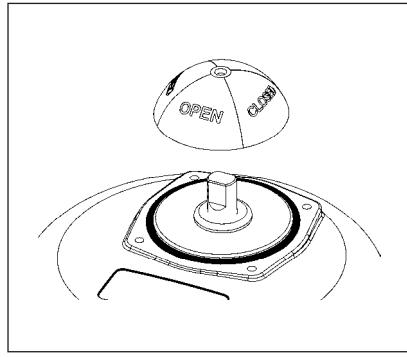

Figure 10: Removing position indicator
- Remove position indicator (see "Figure 10").